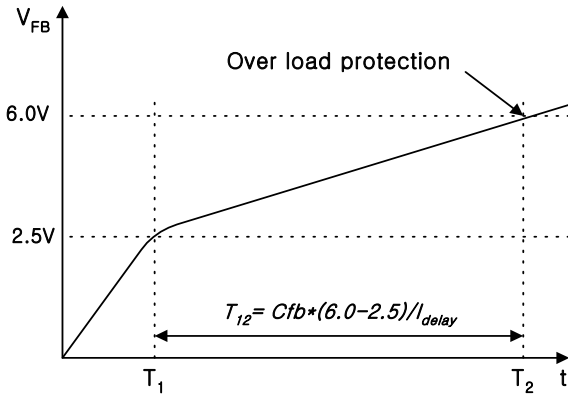

Figure 7. Over load protection
**3.1 Over Load Protection (OLP) :** Overload is defined as the load current exceeding a pre-set level due to an unexpected event. In this situation, the protection circuit should be activated in order to protect the SMPS. However, even when the SMPS is in the normal operation, the over load protection circuit can be activated during the load transition. In order to avoid this undesired operation, the over load protection circuit is designed to be activated after a specified time to determine whether it is a transient situation or an overload situation. Because of the pulse-by-pulse current limit capability, the maximum peak current through the Sense FET is limited, and therefore the maximum input power is restricted with a given input voltage. If the output consumes beyond this maximum power, the output voltage ( $V_o$ ) decreases below the set voltage. This reduces the current through the opto-coupler LED, which also reduces the opto-coupler transistor current, thus increasing the feedback voltage ( $V_{fb}$ ). If  $V_{fb}$  exceeds 2.5V, D1 is blocked and the 3.5 $\mu$ A current source starts to charge  $C_B$  slowly up to  $V_{cc}$ . In this condition,  $V_{fb}$  continues increasing until it reaches 6V, when the switching operation is terminated as shown in Figure 7. The delay time for shutdown is the time required to charge  $C_B$  from 2.5V to 6.0V with 3.5 $\mu$ A. In general, a 10 ~ 50 ms delay time is typical for most applications.